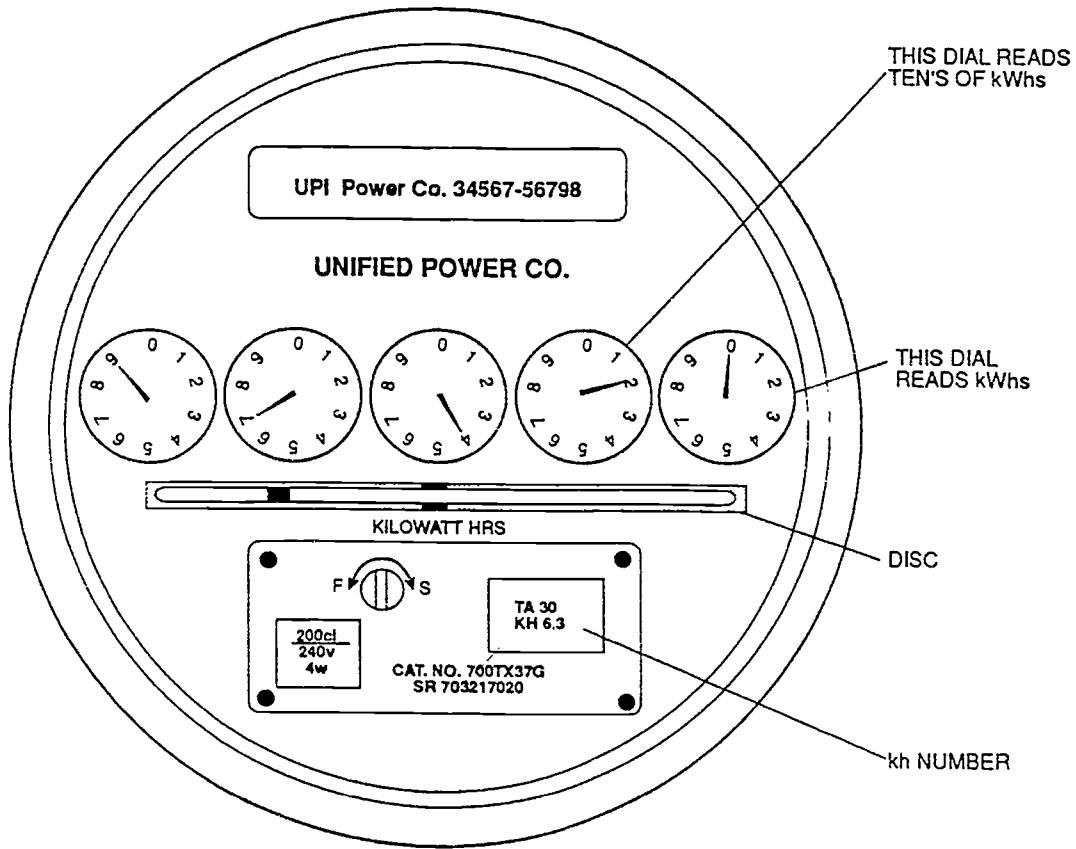

Figure 3. Kilowatt-hour meter face.
11. Show a transparency of kilowatt-hour meter face. Point out features of the meter face. (See Figure 3.)